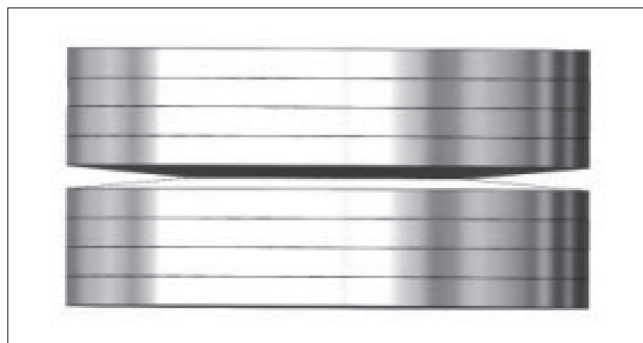

Fig. 15 Disc spring stack indicative view
- The mounting flange or gland (32) must be used for pushing the rings into the counterbore
- See Figure 15 for details
- For Class 150 & 300 rated valves, install the cap screws (33) and and tighten them (refer Table-2). For 600 rated valves, install gland (32), disc springs used for live loading (57), flat washers (59), hex nut (52), and tighten (refer Table-3). See below an indicative figure for arranging disc springs. Actual no. of springs can vary but shown below is a general arrangement.